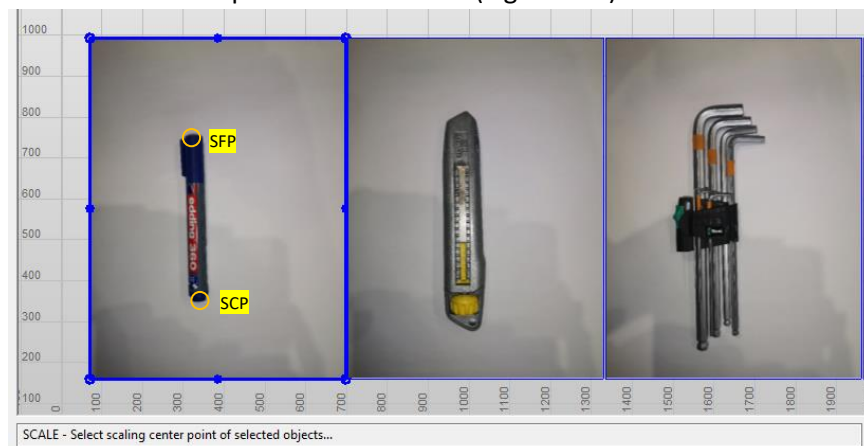

Figure 413
- Next NestKing requires a scaling center point **SCP** SCALE - Select scaling center point of selected objects... Zoom in and select one of the bottom pixels of the marker (Figure 413).
- For the scaling fix point **SFP** SCALE - Select scaling fix point for selected objects or enter scaling factor: select one of the top pixels of the marker pen (Figure 413).